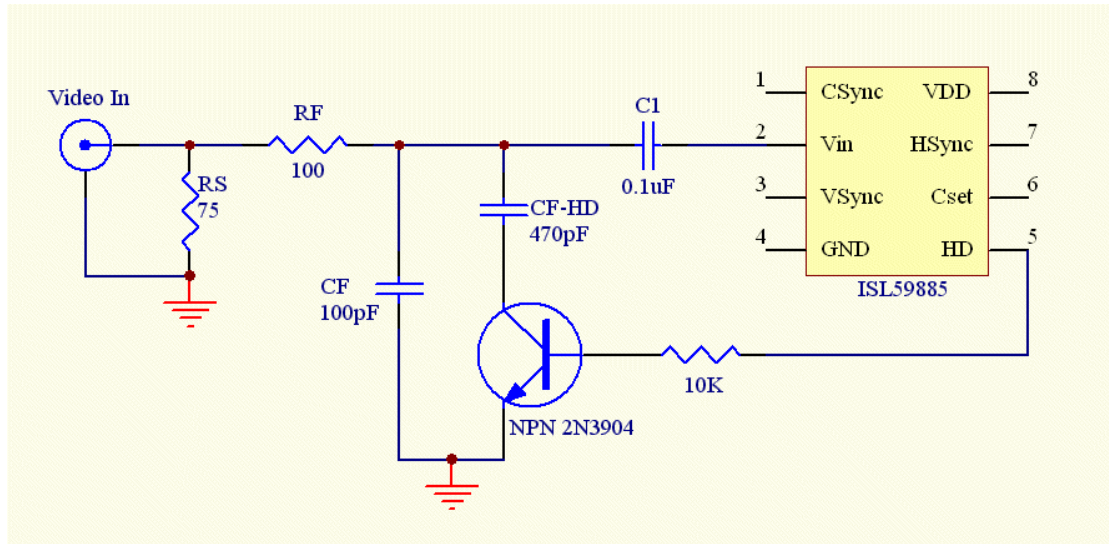

FIGURE 3. FILTER CIRCUIT ALLOWING RELIABLE SYNC DETECTION OF HD AND NTSC VIDEO
The ISL59885 is a sync separator which features both HD and NTSC detection. An output, labeled HD, is provided that responds to the type of input-high for NTSC and low for HD. This external pin can be used to insert a low-pass filter into the sync separator path preventing false sync pulses in composite video. The circuit is shown in Figure 3. When composite signal (NTSC/PAL) is detected, the filter is enabled by applying a logic high to the base of the transistor. When component signal (HD) is detected, the filter is disabled by having the HD pin at a logic low state. Although the transistor is disabled during HD, a low pass filter is still present to filter out any noise present at the input.